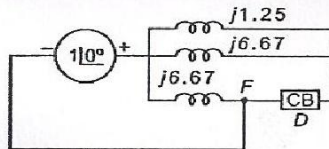

Fig. 8.17(d): Circuit model under transient condition.
- (d) Fig. 8.17(d) shows the circuit model under transient condition.